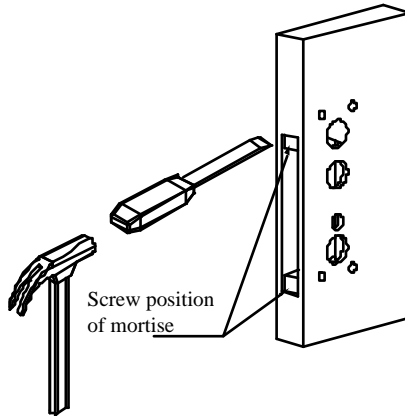

Figure 6
- 6) Use hammer and woodworking chisel dig the lock body's screw position deep about 6mm. Show as Figure 6.